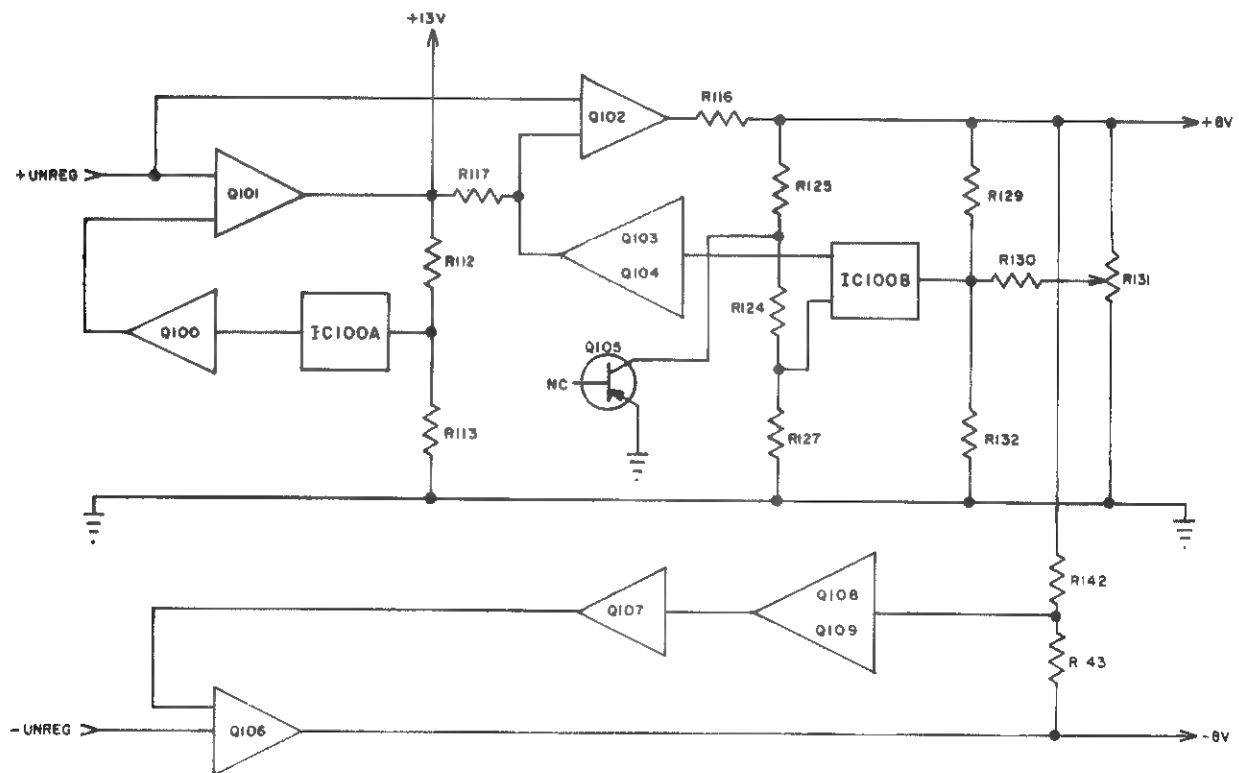

Figure 15. Power Supplies
4.10 POWER SUPPLIES (see figure 15)